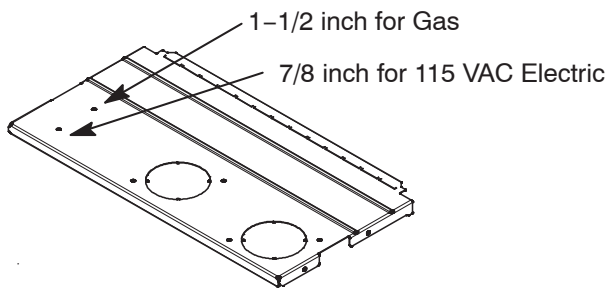

Fig. 32 - Alternate Gas and Electric Entry
NOTE: Check to ensure that external electrical box does not interfere with duct work, gas piping or the indoor coil drain. See Fig. 32 for alternate electric entry through top panel.
11. Connect field power and neutral leads to furnace power leads inside the external electrical box as shown in Fig. 32.